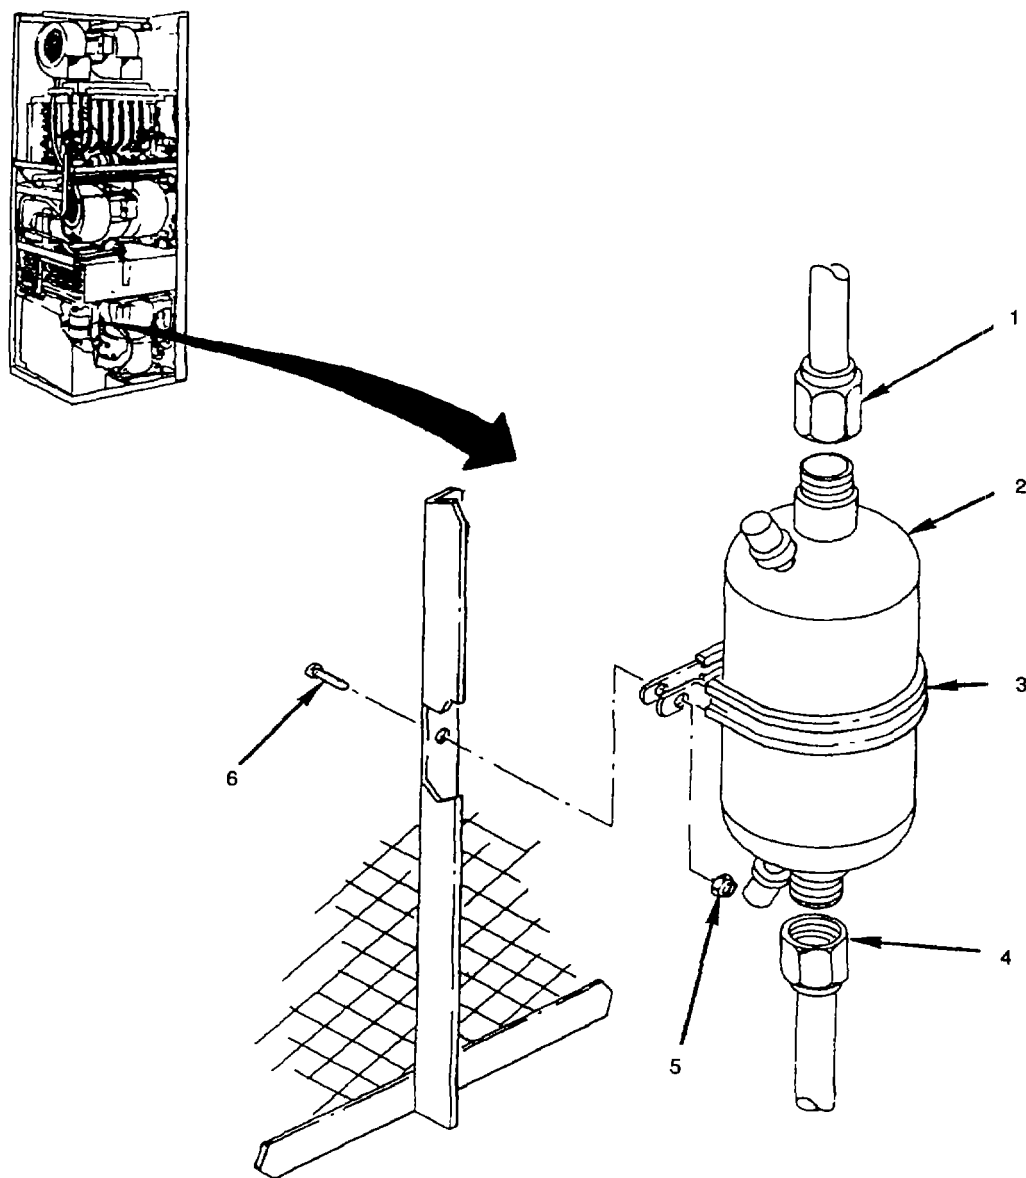

Figure 5-31. Refrigerant Strainer (F2)
- (3) Disconnect air conditioner input power at source
- a. Inspect for evidence of leaks, kinked, or otherwise damaged line, and loose or missing mounting hardware (see fig 5-31).
- a. Remove two flarenuts ( 1) and (4) and lines.
- b. Loosen screw (6) and locknut (5).
- c. Remove refrigerant strainer (2) from clamp (3).
- a. Install refrigerant strainer (2) into clamp (3).
- b. Tighten screw (6) and locknut (5).
- c. Install two flarenuts (1) and (4).